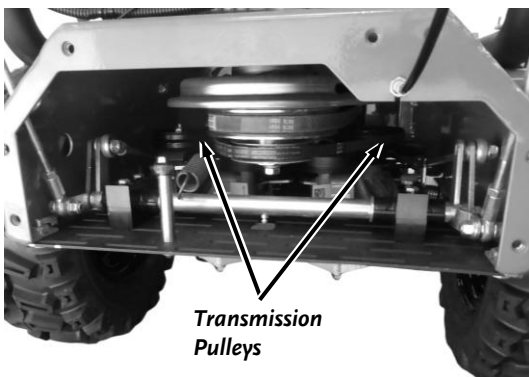

Figure 41
5. Reach inside the Frame to lift the Belt off the Transmission Pulleys (**Figure 41**).